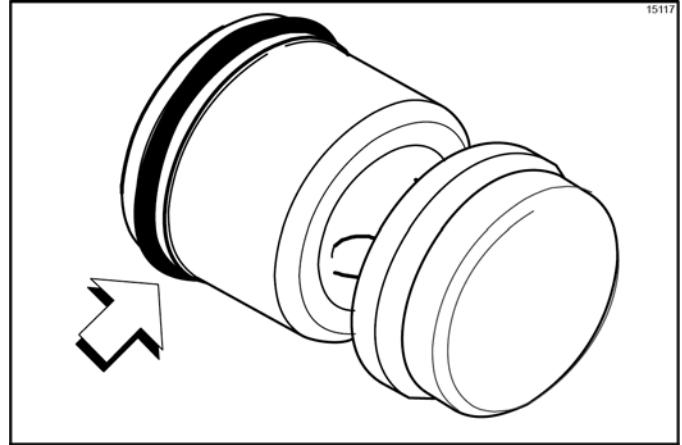

Figure 6-35
- Assemble the piston. Slide the red O-ring into the groove of the piston. **Do not** lubricate the O-ring. (See Figure 6-35.)